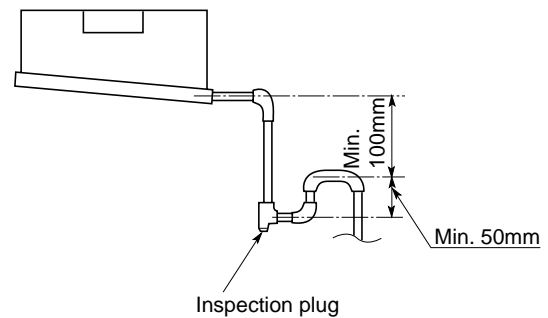

Fig. 3-103
- (4) Prepare traps also in a part of the pipe arrangement, however, prepare a plug in this part in order to make cleaning of the dusts which cause a leak of water. (Fig. 3-103)
- (5) After wiring and drain piping are completed, use the following procedure to check that the water will drain properly. For this, you should have a bucket and wiping cloth ready to catch and wipe up spilled water.